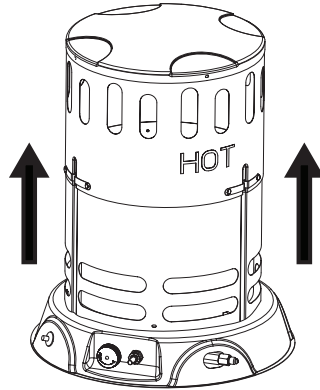

Figure 2
2. Lift outer shell straight up. Care must be taken to protect hands during lift. (See Figure 2)